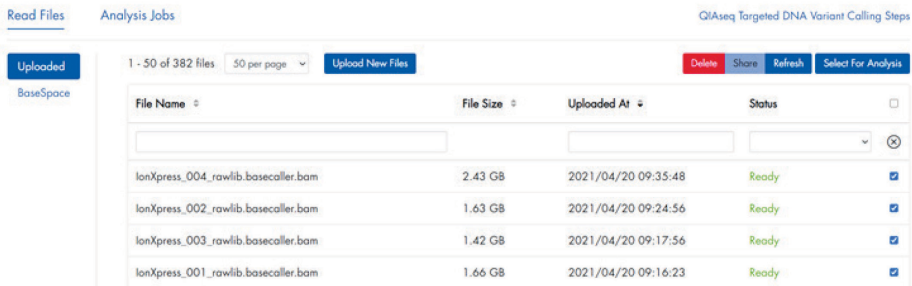

Figure 12. File selection for QIAseq Targeted DNA Pro data analysis pipeline.
- Select the boxes next to the files that will be analyzed, and then click **Select For Analysis** (Figure 12).